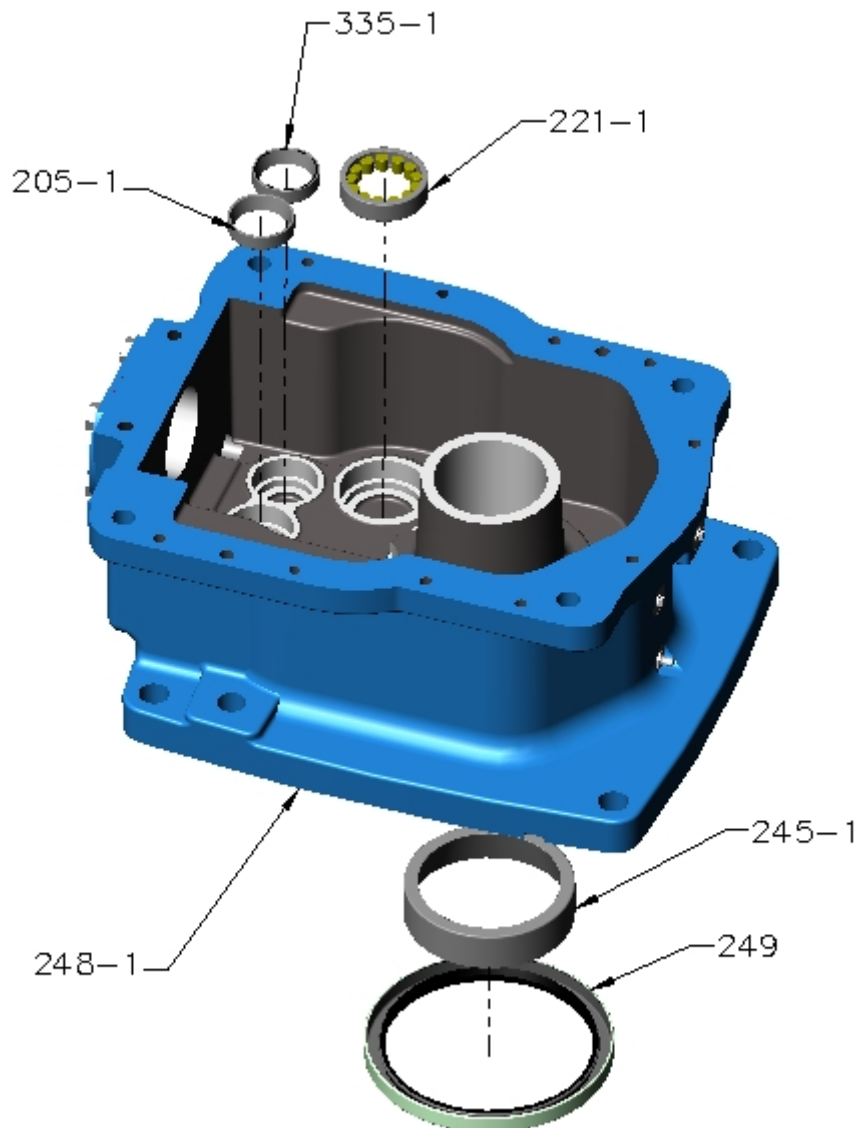

Figure 13 – Bottom Case
Q. At bottom case [248-1], remove following items (refer Figure 13):